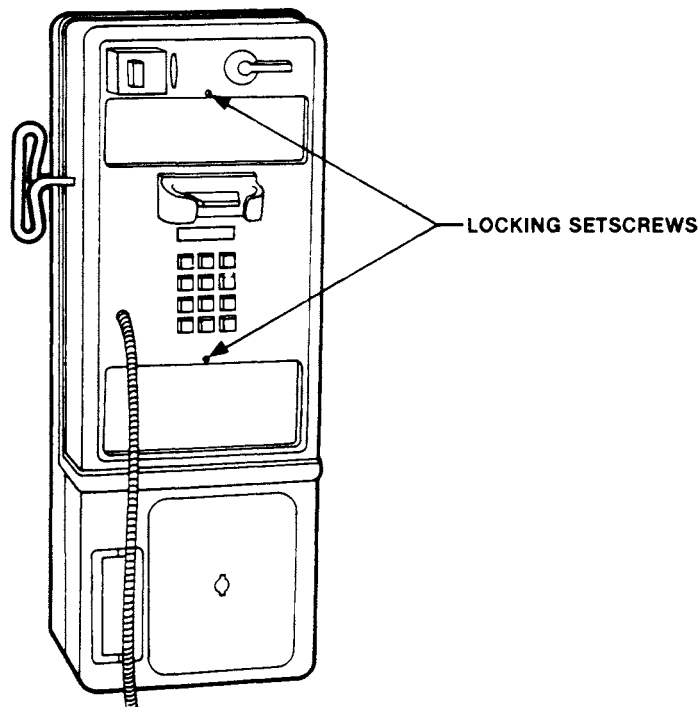

Figure 22 Card Locking Setscrews
1. Loosen the card locking setscrew in the faceplate (refer to Figure 22) by turning it counterclockwise with a No. 4 (.050) Allen wrench.